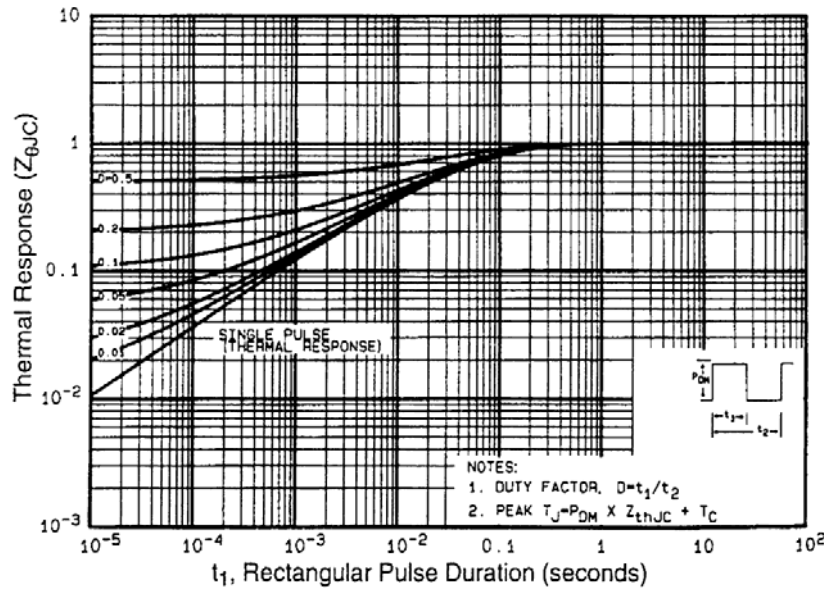

Fig 11. Maximum Effective Transient Thermal Impedance, Junction-to-Case
① Repetitive rating; pulse width limited by max. junction temperature (See Figure 11)
② $V_{DD}=50V$, starting $T_J=25^\circ\text{C}$, $L=14\text{mH}$